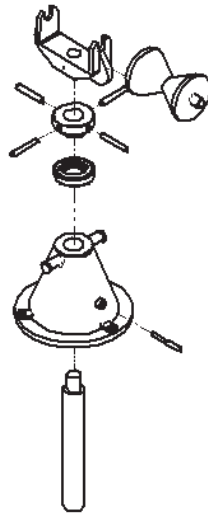

Figure 11-27 Exploded view
5. Place the view on the drawing sheet. An exploded view is shown in Figure 11-27.